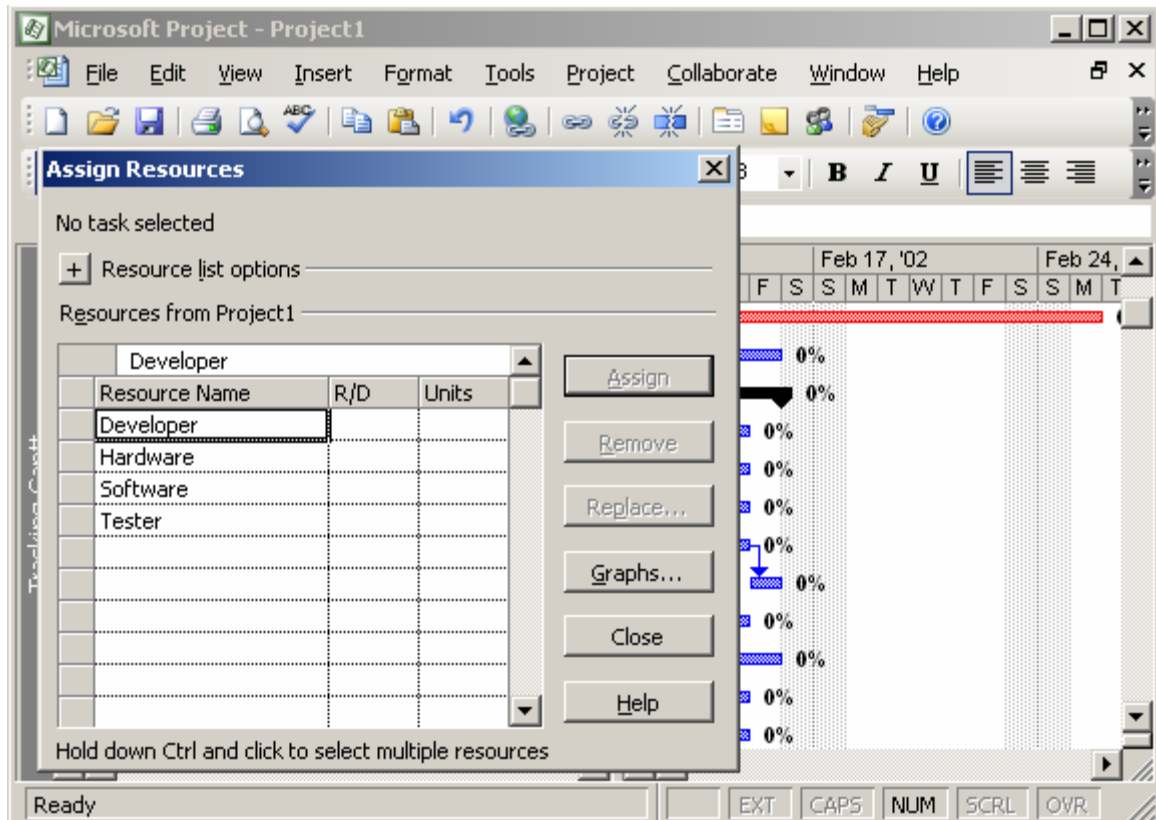

Figure 11.12: Assigning Resources to Tasks
7. Click the **Assign** Resources command. Figure 11.12 displays the Assign Resources dialog box.